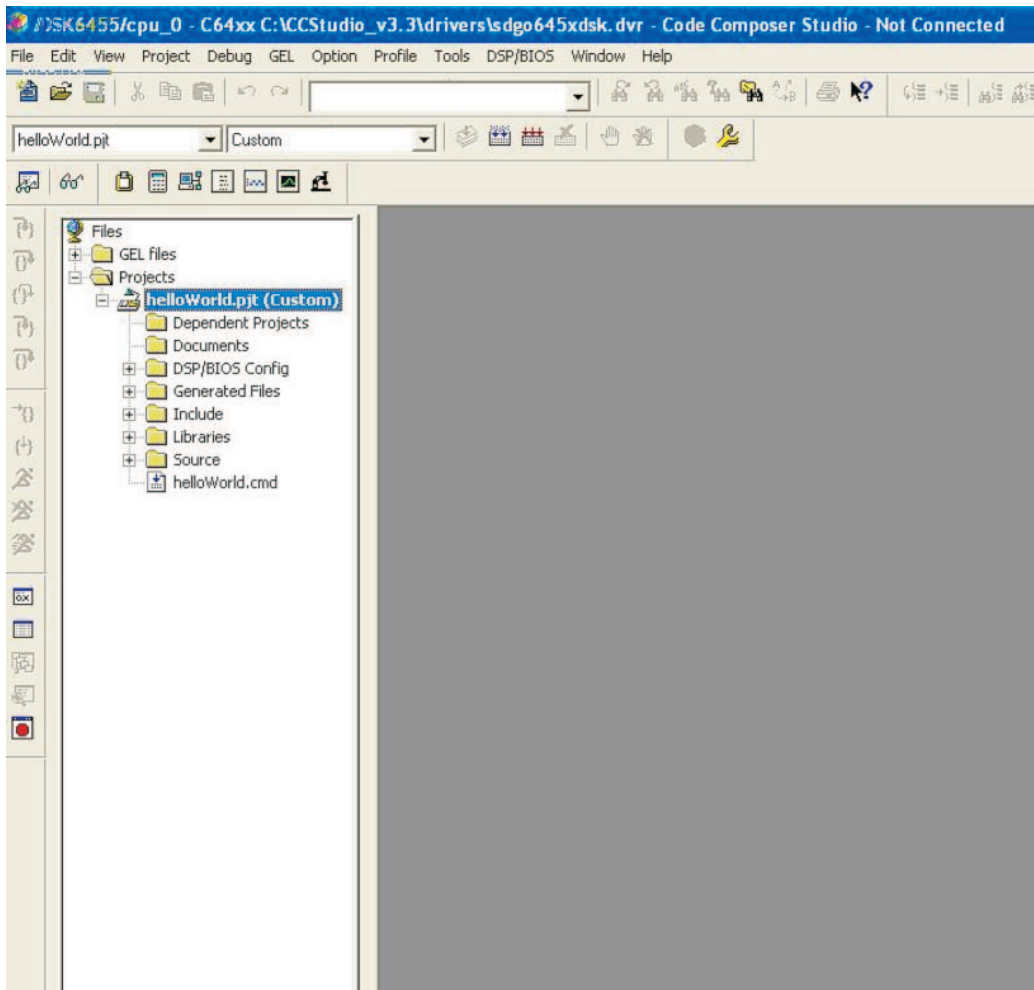

Figure 1. HelloWorld Project Open in Code Composer Studio Window
- Open Code Composer. Click on Project → Open and browse to the <NDK_INSTALL_DIR>/packages/ti/ndk/example/network/helloWorld/dsk6455>. Select the helloWorld.pjt. It should open up the project as shown in Figure 1: